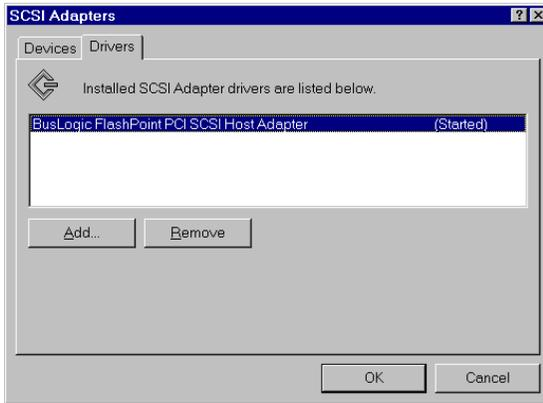

Figure 3-4. Add a New SCSI Adapter
5. With the Drivers page in the foreground, click Add. (Figure 3-4).